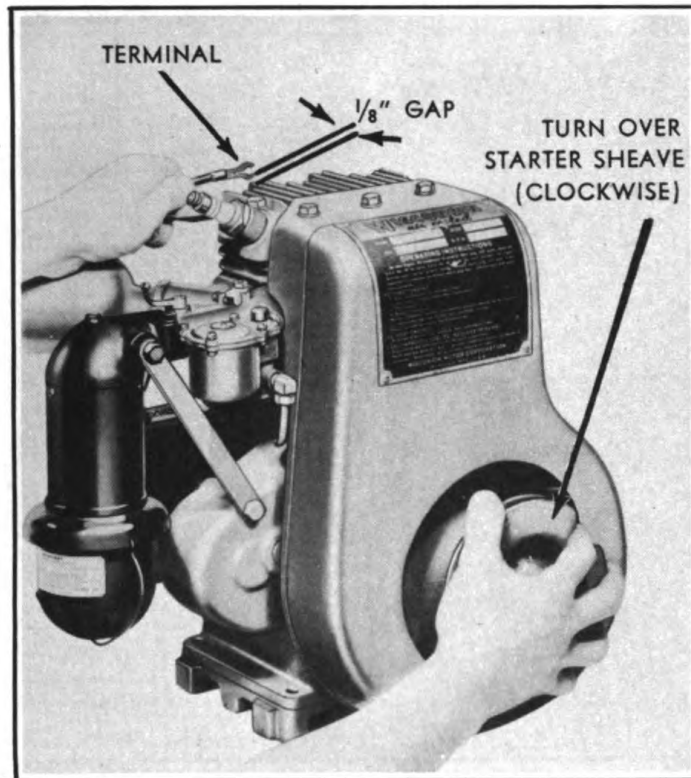

FIG. 43 Testing Engine for Spark
a. TO CHECK FOR SPARK (See Fig. 43)